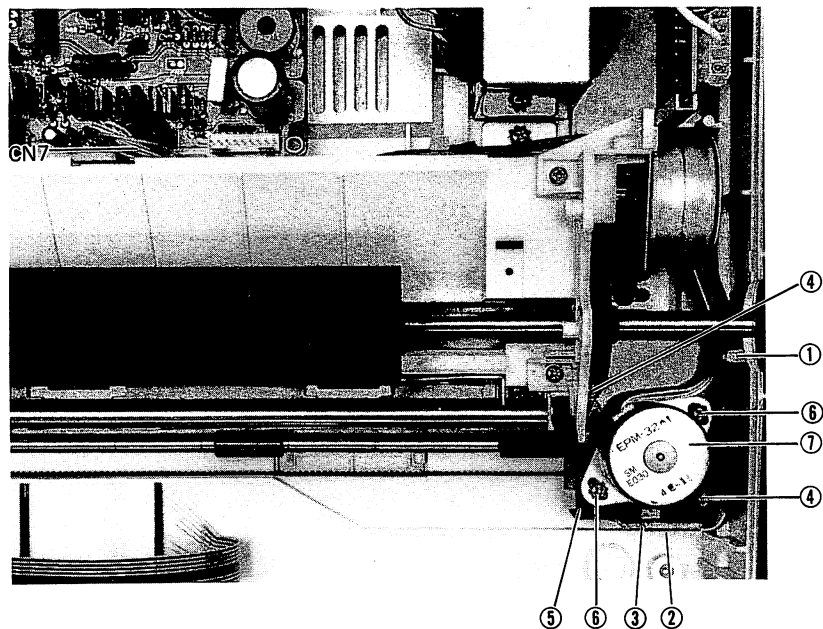

Fig. 4-9. PTS Sensor and Carriage Motor Removal
4.2.10 PTS Sensor Removal (Fig. 4-9)
4.2.11 Carriage Motor Removal (Fig. 4-9)